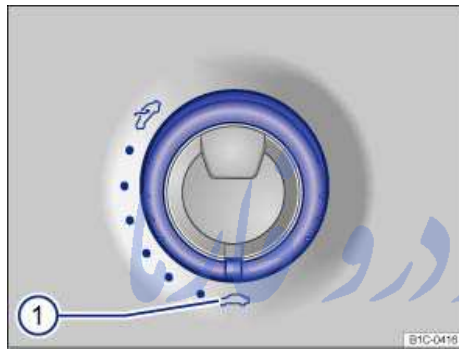

Fig. 34 In the headliner: Sunroof rotary switch.
- The switch must be rotated to the “Closed” position ⇒ fig. 34 (1).